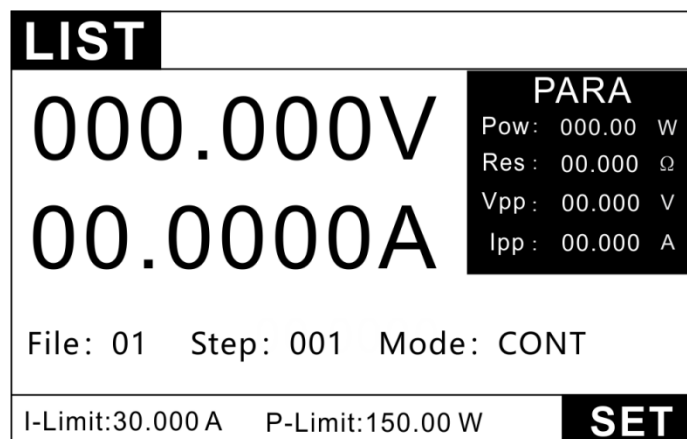
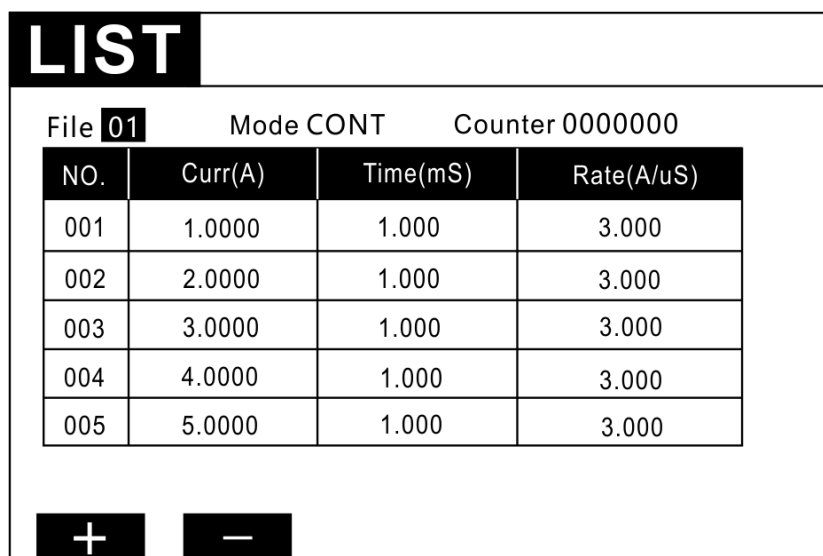

Figure 3.5 LIST mode test interface
Figure 3.6 Edit the LIST file
2. In Figure 3.5, press the key **SET** to enter the setting interface, as shown in Figure 3.6.
3. Select the desired file number by pressing the key + / -, as shown in Figure 3.6
6. Press the key ADD to increase the number of steps and set the parameters for each step, as shown in Figure 3.6.